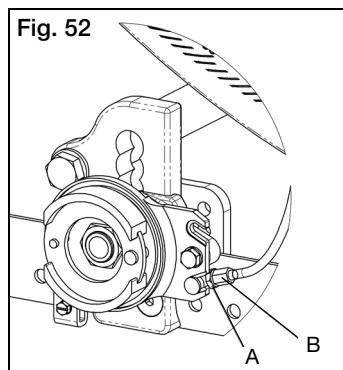

Fig. 52
- a. Using a 10mm wrench, unlock jam nut (Fig. 52:A) on adjuster (Fig. 52:B). Unthread adjuster to get tighter braking action or thread adjuster in to reduce braking action.